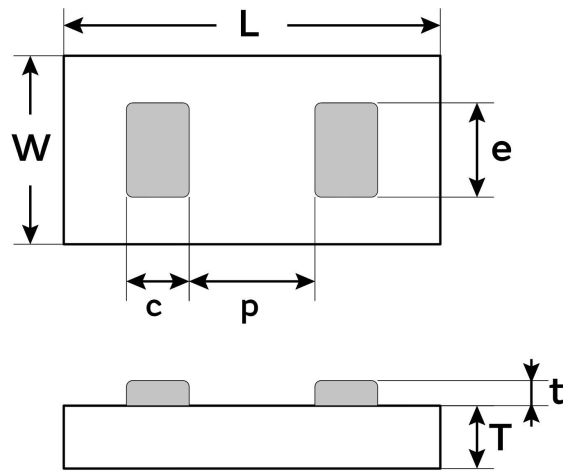

Figure 7 - Package outline
(1) Other Film Frame Carrier are possible on request
(2) SAC = ENIG + SAC305 type 6 or ENIG = 0.1µm Au / 5µm Ni
(3) missing capacitors can reach 0.5%
(4) refer to Figure 7